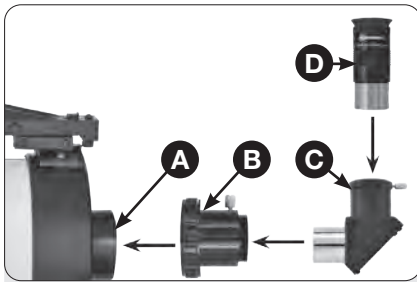

Fig. 11: Installation sequence for optical accessories on the focusing unit.
11. Attaching the eyepiece holder (Fig. 11): Remove the dust protection cap from the opening of the beam path at the end of the tube (A, Fig. 11). Place the eyepiece holder (B, Fig. 11) on the thread at the end of the tube and screw the union nut over it by hand. Then insert the star diagonal mirror (Fig. 11, C) into the eyepiece holder in the desired orientation and clamp it with the knurled screw on the side.
12. Inserting the eyepiece (Fig. 11) for the straight view mode: Remove the dust cap from the eyepiece holder. Place the dust cap in a safe place and restore it when you have finished observing to prevent dirt from entering the telescope. Loosen the knurled screw and insert the included eyepiece (D, Fig. 11) into the eyepiece holder. Then hand-tighten the screw again to fix the eyepiece in place.
13. Insert the star diagonal mirror (Fig 11): 11): Recommended for a more comfortable neck-friendly view at zenith height. It is inserted into the eyepiece holder (B, Fig. 11) instead of the eyepiece (D, Fig. 11). Then the eyepiece is inserted into the receptacle of the star diagonal mirror. After inserting the star diagonal mirror and eyepiece, retighten the corresponding fixing screws well so that all parts are securely fixed in position.